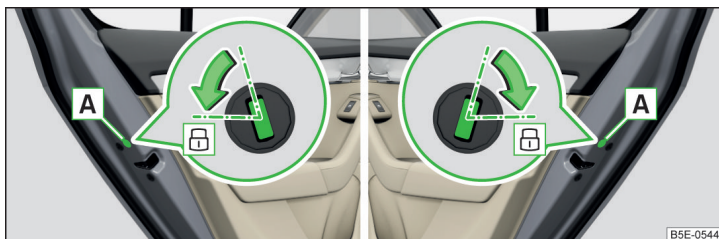

Fig. 214 Emergency locking: Left/right rear door
- Remove the panel **A** » Fig. 214.